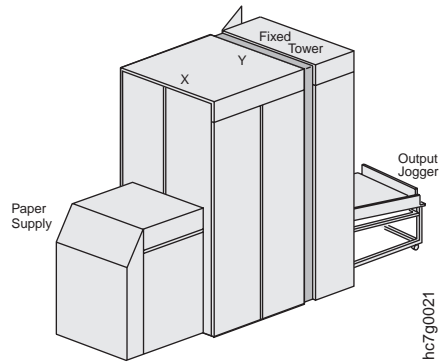

Figure 259. Right Side View of the InfoPrint Color 100
2. Open the fixed tower door on the left side of the machine, as shown in Figure 259.